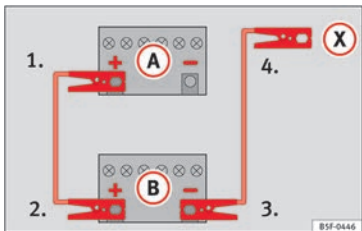

Fig. 76 Diagram of connections for vehicles without Start Stop system
2. Connect one end of the *red* jump lead to the positive (+) terminal of the vehicle with the flat battery (A) » » Fig. 76.
3. Connect the other end of the *red* jump lead to the positive terminal (+) in the vehicle providing assistance (B).
4. *For vehicles without Start-Stop system:* connect one end of the *black* jump lead to the negative terminal (-) of the vehicle providing the current (B) » » Fig. 76.